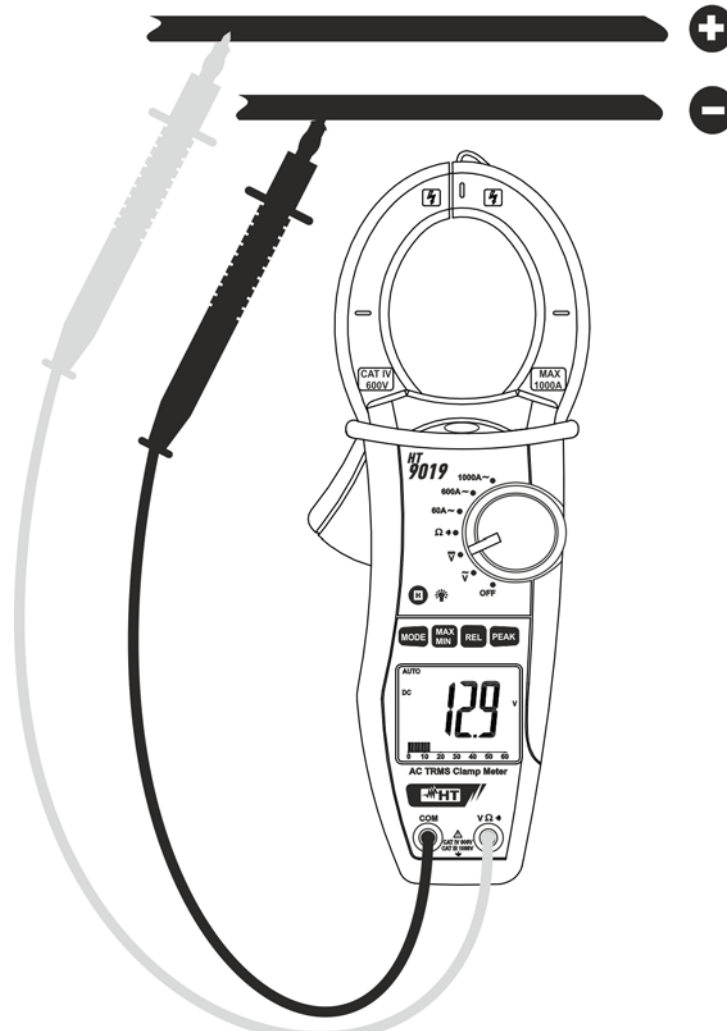

Fig. 4: Taking DC voltage measurements
2. Insert the red test lead plug into **VΩ $\overline{V}$**  jack and the black test lead plug into **COM** jack (Fig. 4)